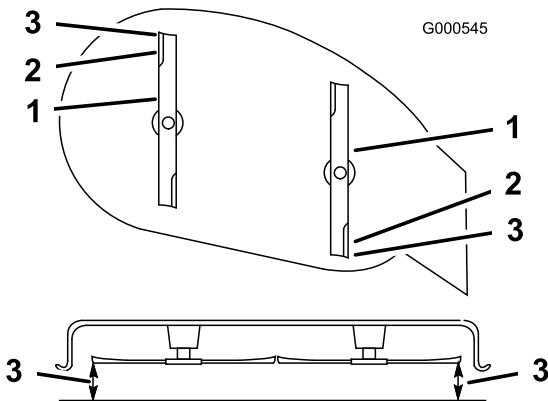

Figure 40
5. Set the height-of-cut at position **3** [3 inch (76 mm)] and carefully rotate the blades so they are facing front to rear (Figure 40).
6. Measure from the tip of the front blade to the flat surface and the tip of the rear blade to the flat surface (Figure 40). If the front blade tip is not 1/16-5/16 inch (1.6-7.9 mm) lower than the rear blade tip, adjust the front locknut.
is 1/16-5/16 inch (1.6-7.9 mm) lower than the rear blade tip (Figure 40).